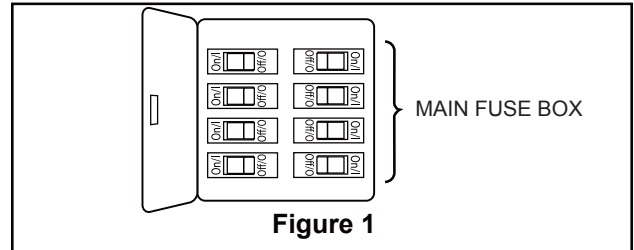
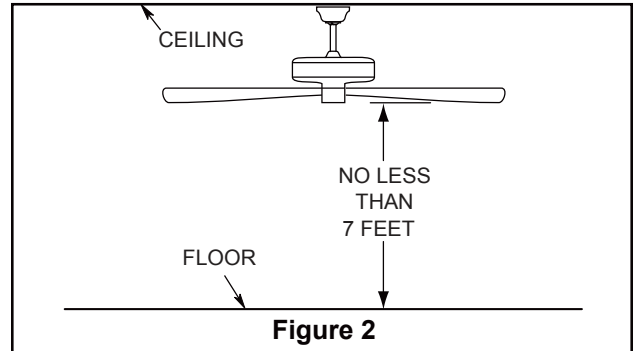
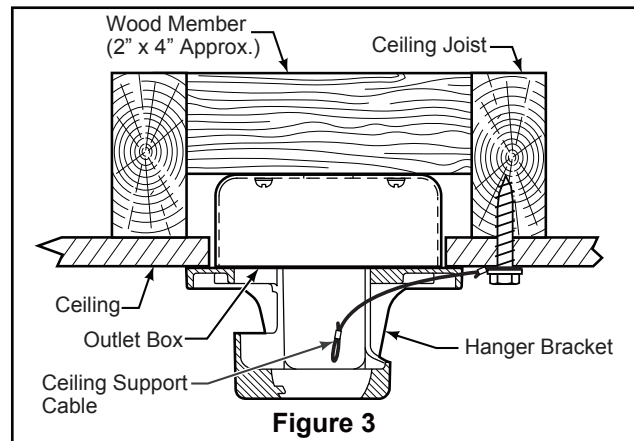

Figure 1
Figure 2
Figure 3
Your new ceiling fan will require a grounded electrical supply line of 120 volts AC, 60 HZ, 15 Amp Circuit. Electrical code requires use of a fan-rated outlet box to support the extra weight and motion associated with a ceiling fan. A fan-rated box will be labeled as such and typically supports up to a 70lb ceiling fan. Fan-Rated Outlet Boxes vary in ratings and design. Ensure the ratings of your ceiling fan outlet box meet the requirements for the ceiling fan being installed. Figure 1, Figure 2 and Figure 3 depicts different structural configurations that may be used for mounting the outlet box.
Low profile box (Figure 1)
Deep box (Figure 2)
Deep box with brace (Figure 3)
1. Remove the hanger ball portion from the downrod/hanger ball assembly by loosening the set screw in the hanger ball until the ball falls freely down the downrod. Remove the pin from the downrod, then remove the hanger ball. Retain the pin and hanger ball for reinstallation in Step 6. (Figure 1)
2. Remove the hairpin clip and clevis pin from the bottom of the downrod. Retain the pin and clip for reinstallation in Step 4. (Figure 2)
3. Loosen the two set screws and nuts in the downrod support of the motor assembly. Route the black, white, blue wires and safety cable through the downrod. (Figure 3)
To avoid possible fire or shock, be sure electricity is turned off at the main fuse box before hanging. (Figure 1)
The fan must be hung with at least 7' of clearance from floor to blades. (Figure 2)
1. Securely attach the hanger bracket to the outlet box using the outlet box screws and washers supplied with the outlet box. (Figure 3)
2. Drill a 1/4" pilot hole into the building structure to prevent splitting or cracking with installation of the lag bolt. Using the 3/8" x 2" lag bolt and flat washer, attach safety cable to ceiling joist or wood structural member. The lag bolt will pass through the flat washer, safety cable loop, and into the building structure. (Figure 3)
- 1. To set the code on receiver unit, slide dip switches to the same positions as set on the remote. (Figure 1)
To avoid possible electrical shock, be sure electricity is turned off at the main fuse box before wiring. (Figure 2)
- 2. Slide the receiver into the hanger bracket before wiring as shown in figure 3.
- 1. Assemble canopy by rotating key slot in canopy over shoulder screw in hanger bracket, taking care not to pinch the wires. Tighten shoulder screw. Fully assemble and tighten second shoulder screw that was previously removed. (Figure 1)
- 2. Securely attach and tighten the canopy screw cover over the shoulder screws in the hanger bracket utilizing the keyslot twist-lock feature. (Figure 2)
- 2. Position the blade over the blade holder with threaded posts showing. Make sure the bottom edge of the blade is fully seated against the blade holder. With a phillips screwdriver, tighten 3/16"-24 washer head screws and fiber washers to secure the blade to the blade holder. (Figure 2)
3. Secure the blade holders to the bottom of the motor assembly using the 1/4"-20 screws from the hardware bag. (Figure 3)
2. Assemble the light plate assembly to the adaptor plate of the motor assembly using the two key slots in the light plate assembly. Replace the third screw and secure all three screws. (Figure 2)
3. Remove one of the three screws in the light plate assembly and retain the screw for later. Slightly loosen the remaining two screws. (Figure 3)
- 2.** Restore electrical power to the outlet box by turning the electricity on at the main fuse box. (Figure 2)
- 3.** To make fan operational, install 23A/12V battery (included) in hand-held remote transmitter, with fan power off. Then follow the remote code setting process. (If not used for long periods of time, remove battery to prevent damage to transmitter). Store the remote away from excessive heat or humidity. (Figure 3)